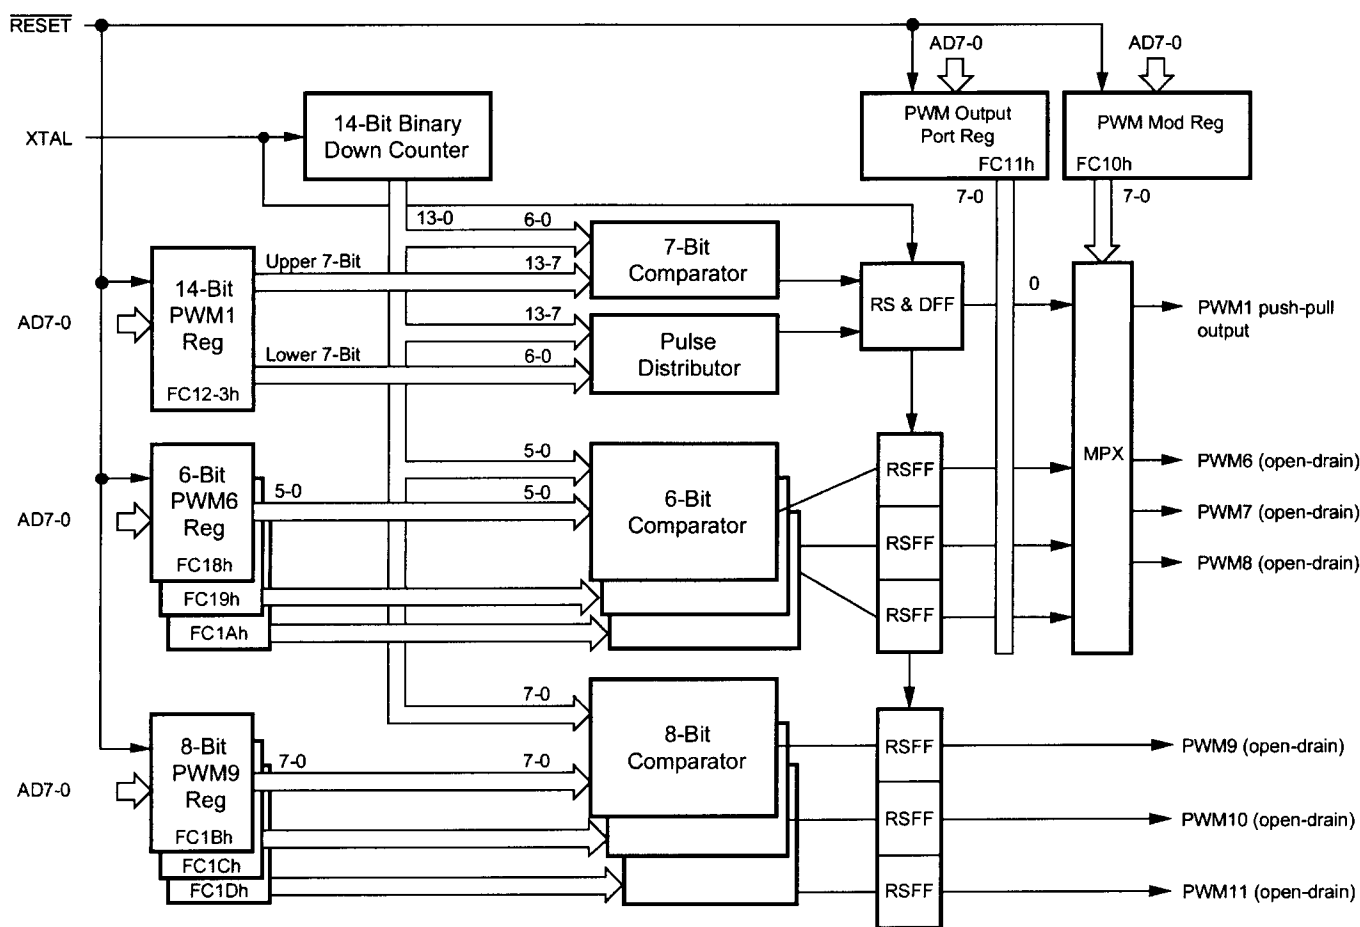

Figure 9. Pulse Width Modulator Block Diagram
**Pulse Width Modulator (PWM).** The Z90102/103/104 features seven PWM channels (Figure 9). There are three types of PWM circuits: PWM1 (one channel of 14-bit resolution) typically used for Voltage Synthesis Tuning, PWM8–PWM6 (three channels of 6-bit resolution) typically used for audio level control, and PWM9, 10, 11 (three channels of 8-bit resolution) typically used for picture level control. The PWM control registers are mapped into exter-